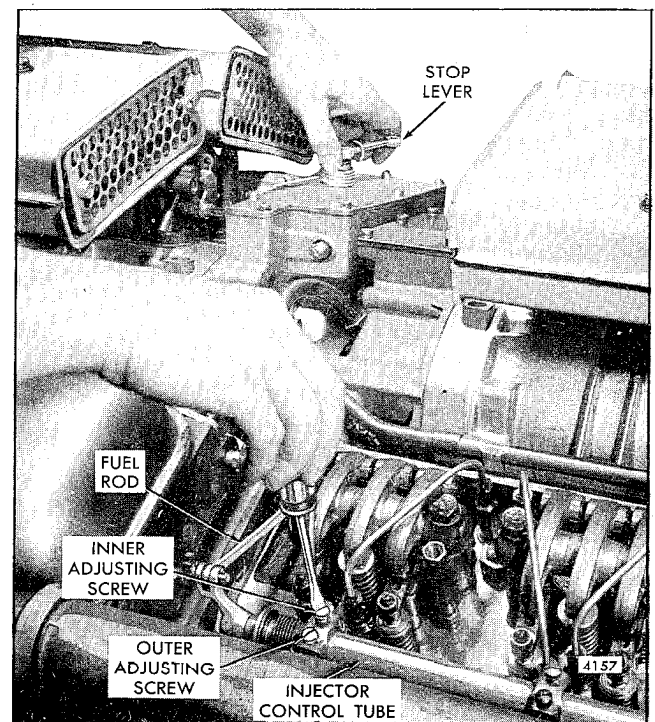

Fig. 4 - Positioning No. 4R Injector Rack Control Lever
4. Move the stop lever in the RUN position and hold it in that position with a light finger pressure. Turn the inner adjusting screw of the No. 4R injector rack control lever down until a slight movement of the stop lever is noted (Fig. 4). Turn down the outer adjusting screw until it bottoms lightly on the control tube. Then